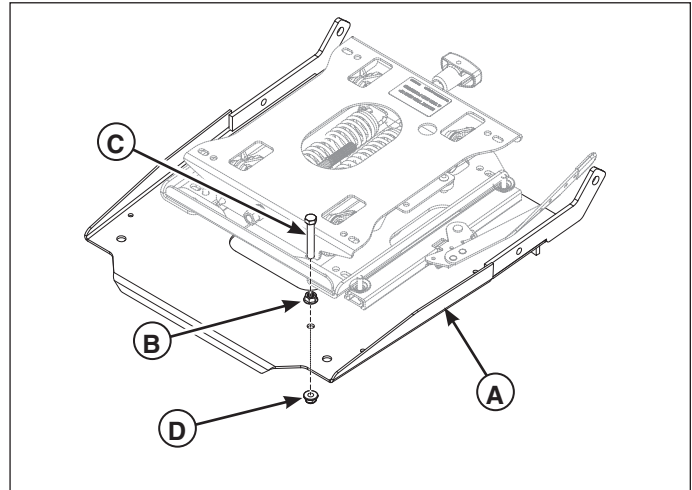

Figure 3. Installing the Seat Bolt (As seen from Right Rear Corner of Machine)
2. Raise the seat plate (**A, Figure 3**).
3. Install the 3/8-16 hex serrated flange nut (M8 - 1.25) (**B**) onto the 3/8-16 X 2-1/2 bolt (M8 - 1.25 X 64 mm) (**C**) as shown in Figure 3. The 3/8-16 hex serrated flange nut (M8 - 1.25) should be tightened until it contacts the non-threaded base of the bolt.
4. Install the bolt and nut through the seat plate in the hole as shown in Figure 3. Secure the bolt in place using the 3/8-16 hex nylock flange (M8 - 1.25)(**D**).